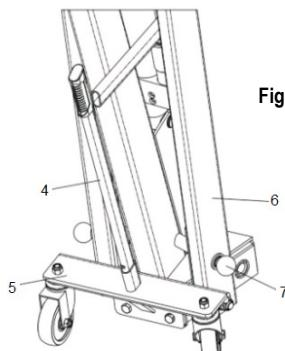

Fig. 8
- Jib adjustment: press the button; push and pull the hook extension rod to the required length (Fig. 8).